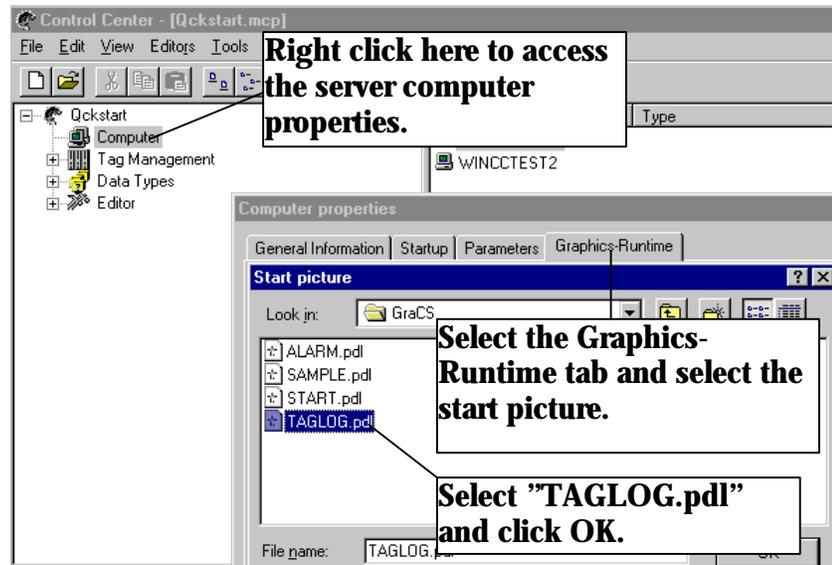

Figure 7.13 WinCC Project "QckStart"; Setting the Start Picture for the Server
1. In the control center of the server, access the properties of the server computer using a right mouse click. Refer to Figures 7.13 and 7.14.